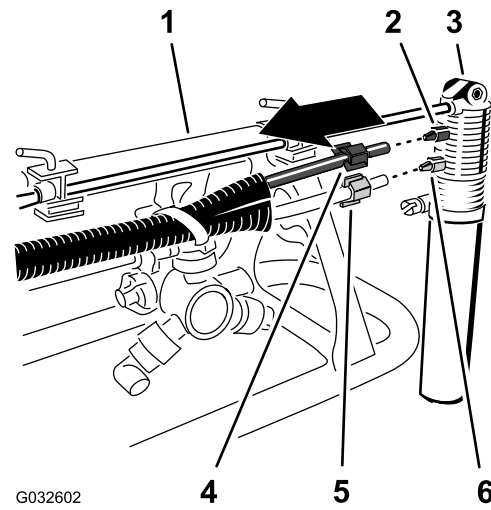

Figure 26
3. Loosen the compression nut that secures the clear tube (air) to the white compression fitting of the foam-marker nozzle (Figure 26).
5. Remove the compression nuts at the ends of the tubes (Figure 26).
2. At the foam-marker nozzle, loosen the compression nut that secures the blue tube (water) to the blue compression fitting of the foam-marker nozzle (Figure 26).